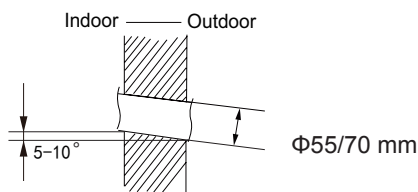

Fig.2
(2) Open a piping hole with the diameter $\Phi 55/70\text{mm}$ on the selected outlet pipe position. In order to drain smoothly, slant the piping hole on the wall slightly downward to the outdoor side with the gradient of $5-10^\circ$. (As show in Fig.2)